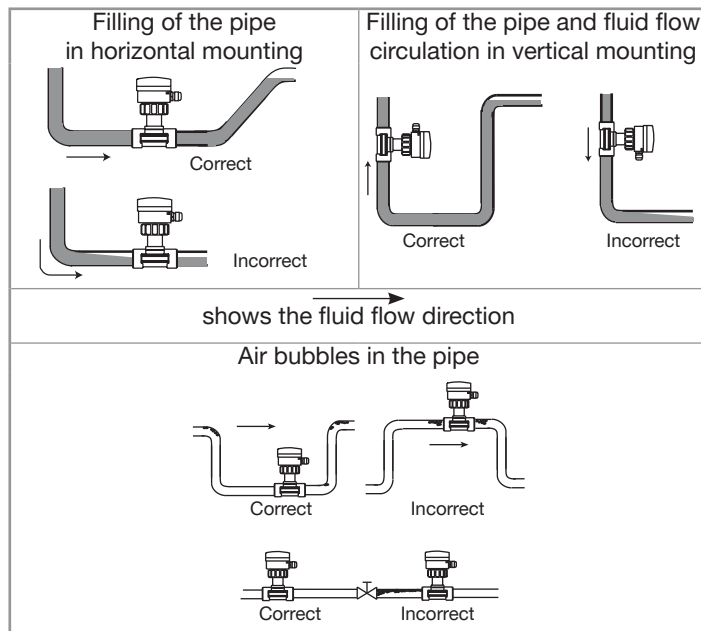

Fig. 5: Filling of the pipe, flow direction of the fluid, vertical mounting, air bubbles in the pipe
- the pipe is always filled in the section around the device (see Fig. 5),
- when the fitting is mounted vertically, the flow direction of the fluid is upwards (see Fig. 5),
- air bubbles do not form in the pipe in the section around the device (see Fig. 5).
- the pipe is always filled in the section around the device (see Fig. 5, page 14),
- when the sensor-fitting is mounted vertically, the flow direction of the fluid is upwards (see Fig. 5, page 14),
- air bubbles do not form in the pipe in the section around the device (see Fig. 5, page 14).